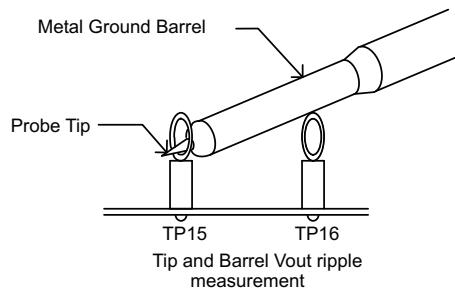

Figure 3. Output Ripple Measurement – Tip and Barrel Using TP15 and TP16
TPS40192EVM-525 provides two test points for measuring the voltage generated by the module. This allows the user to measure the actual module output voltage without losses from output cables and connector losses. All output voltage measurements should be made between TP15 and TP16. To use TP1 and TP2, connect a voltmeter positive terminal to TP15 and negative terminal to TP16. For output ripple measurements, TP15 and TP16 allow a user to limit the ground loop area by using the tip and barrel measurement technique shown in Figure 3. All output ripple measurements should be made using this technique.
A digital or analog oscilloscope can be used to measure the ripple voltage on V_{OUT} . The oscilloscope should be set for 1- $M\Omega$ impedance, 20-MHz bandwidth, AC coupling, 1- μs /division horizontal resolution, 10-mV/division vertical resolution for taking output ripple measurements. TP15 and TP16 can be used to measure the output ripple voltage by placing the oscilloscope probe tip through TP15 and holding the ground barrel to TP16 as shown in Figure 3. For a hands-free approach, the loop in TP16 can be cut and opened to cradle the probe barrel. Using a leaded ground connection may induce additional noise due to the large ground loop area.
4. Connect oscilloscope probe to TP15 and TP16 as shown in Figure 3.